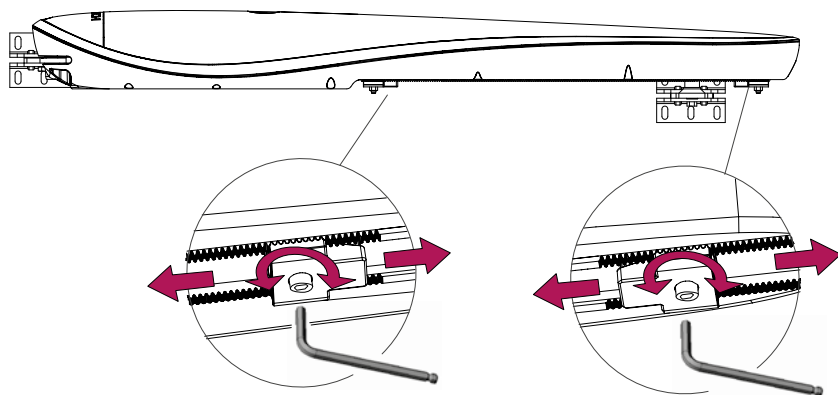

Figure 16. Adjusting the mechanical stops of a drive
- Move a gate leaf manually to the gate opening position, then move the corresponding stop until the stop switch is activated (disengaged/with a distinctive click) (*fig. 16*).